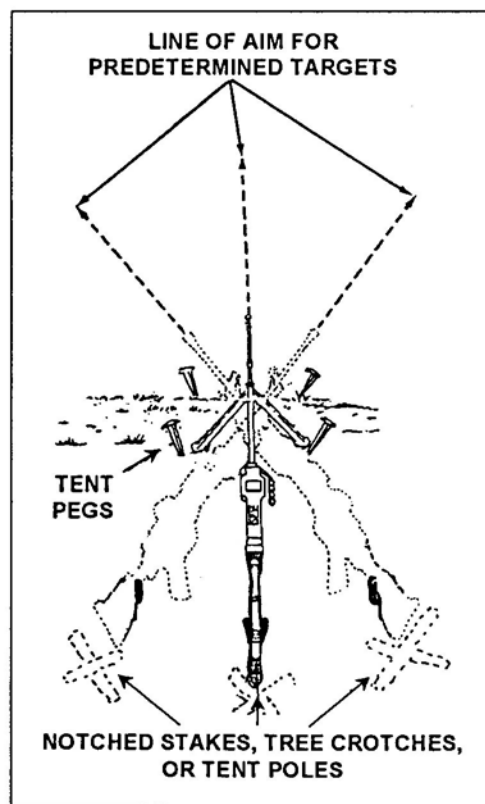

Figure 1. Notched-stake or tree-crotch method of engaging predetermined targets.
1. Fabricate notched stakes or tree crotches if needed (Figure 1).